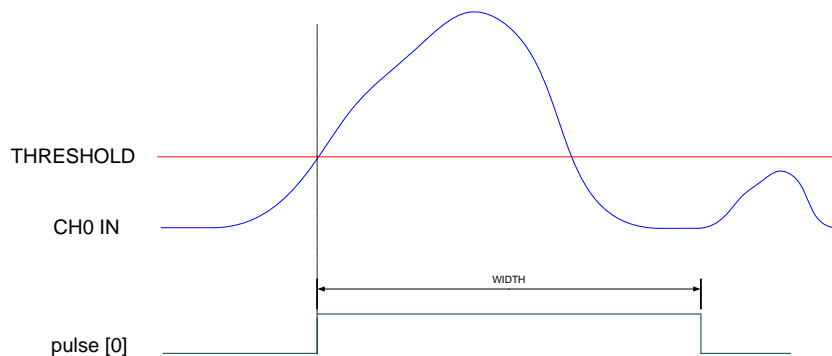

Fig. 9.15: Channel pulse signal
- a pulse of configurable width (see Fig. 9.15); the width parameter can be set at register address 0x1n70.